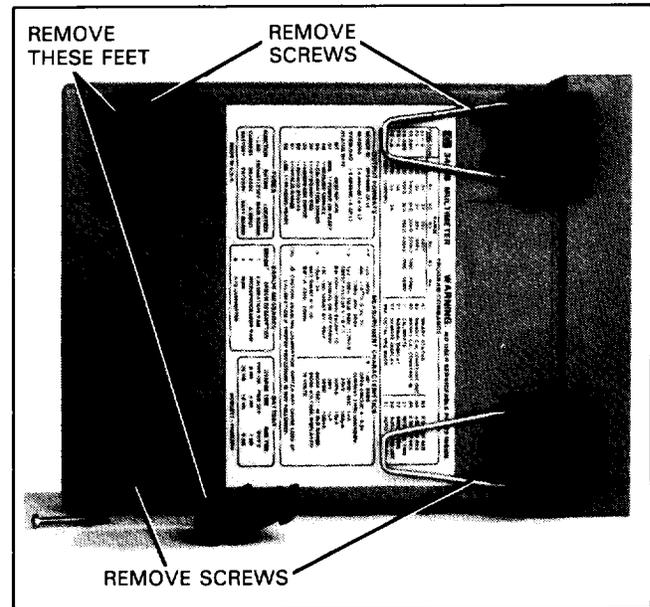

Figure 2-2. 3468B Bottom View
2. If the instrument is a 3468B (see previous step for a 3468A), place the instrument into the inverted position and locate the two rear feet (see Figure 2-2). Then remove the two rear feet. To remove a foot, lift up the tab on the foot and then push the foot toward the front of the instrument. Then lift the foot away from the instrument and remove it. Once the rear feet are removed, locate and loosen the four
screws at the bottom of the instrument, as shown in Figure 2-2. (Loosen the screws only enough to remove the top cover.) Continue with step b.